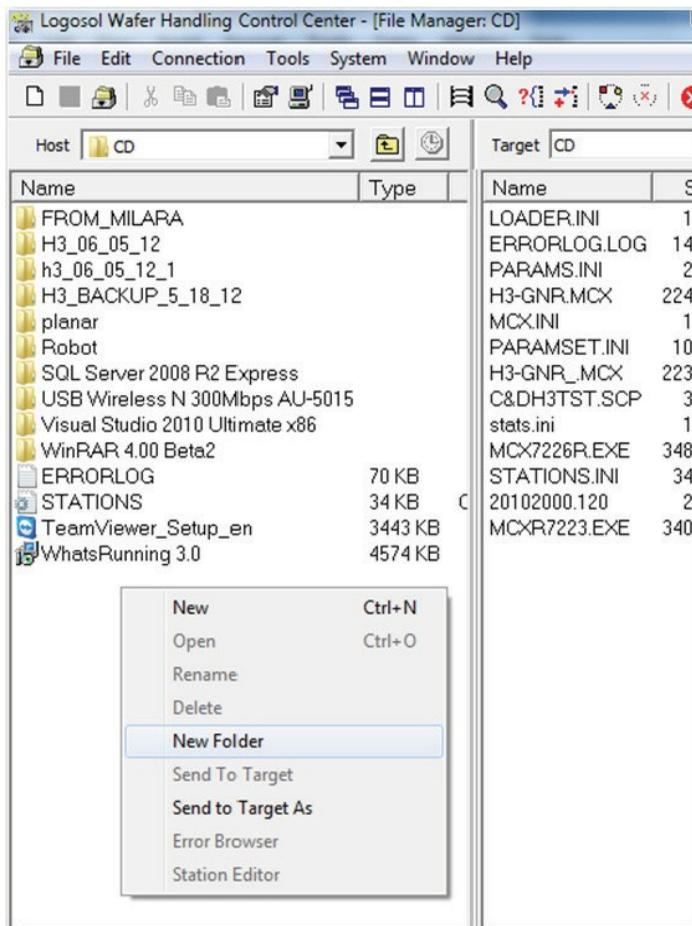

FIGURE 6-4: Creating a backup folder
8. In the File Manager window, right-click in the right pane and then click **New Folder** from the pop-up menu. See Figure 6-4.